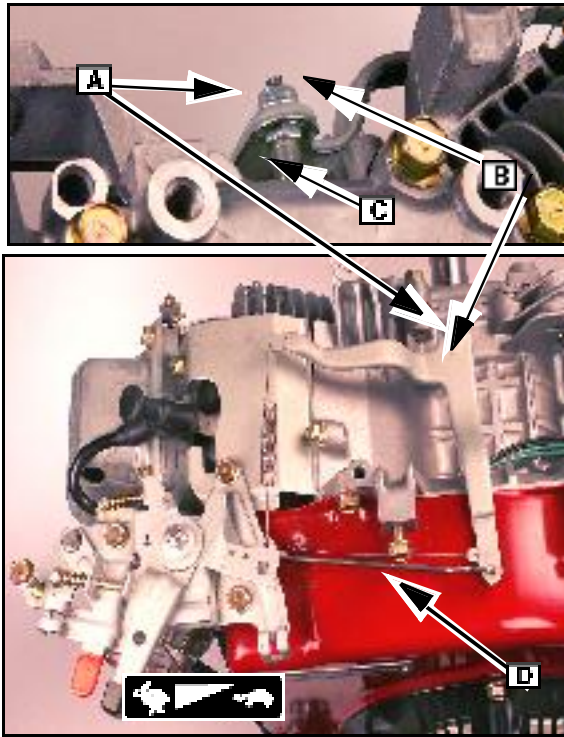

Fig. 23
1. Loosen lock nut **(A)** holding governor lever **(B)** to governor crank **(C)** Fig. 23).
2. Rotate throttle plate linkage from **IDLE** to **WOT** (Wide Open Throttle). Note direction of rotation of the governor lever **(B)** attached to the throttle linkage **(D)** Fig.23).